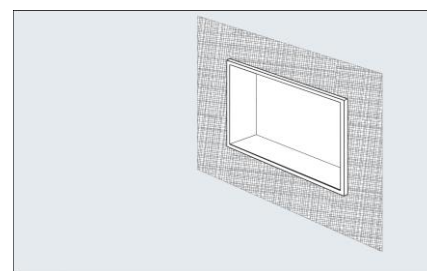

Fig. 5
**STEP 7:** The Walls are now ready to be waterproofed with liquid waterproofing (supplied by others) (Fig 5).